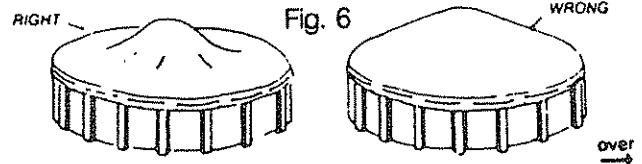

Fig. 6
5. Before placing cover over the pool, pool water should not be less than 6" from top of pool. Where a through-the-wall skimmer is used cover up the skimmer opening. Inflate flotation pillow (available from your dealer) and secure the pillow in center of pool by tying grommated ends with nylon rope to pool sidewall. Place the cover over pillow to form a loose pyramid letting the cover fall on the water around the circumference (See figure 6). Pull end of cover over pool wall. It is important that the cover fits snugly against the wall to prevent wind from getting under the cover and causing the cover to billow and flap. Caution, such billowing and flapping can cause serious damage to the cover. If you cannot get a snug fit you must block any openings between the cover and the pool wall.